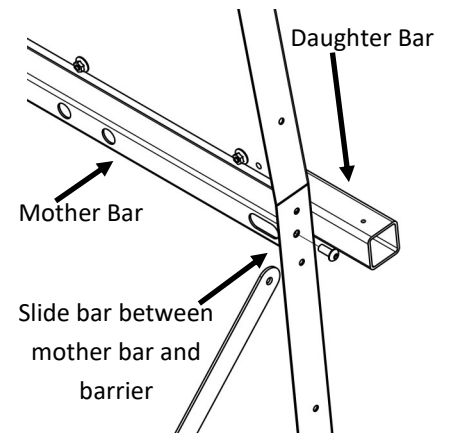

Figure 4c
10. Locate the (2) Barrier Support Bars [3BAR572105] and (2) 5/16"-18 x 3/4" button head screws [3X149]. Slide one end of a Barrier Support Bar between the barrier and the Mother OSB bar end, align the holes in the bar and barrier. Loosely thread button head screw [3X149] into the hole. Repeat on opposite side of barrier. Figure 4c.